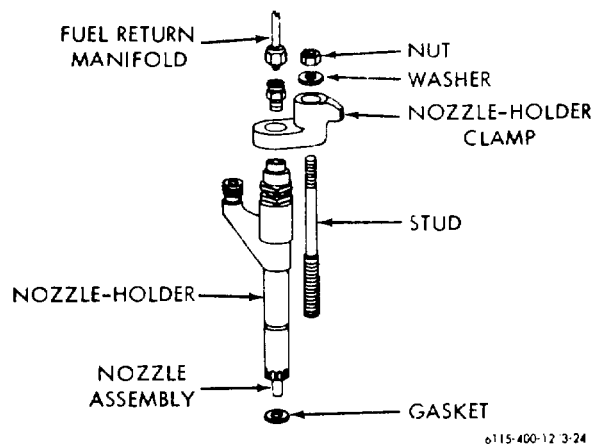

Figure 3-24. Nozzle-holder assembly.
a. *General.* Each fuel injection nozzle-holder (fig. 3-24) consists of two assemblies: the holder assembly and nozzle assembly. The